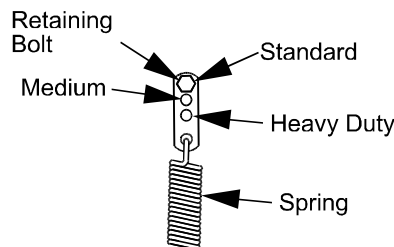

FIGURE 12
- b) For a heavier drive setting, relocate the spring anchor link to either the “medium” or “heavy duty” positions as shown in Figure 12. The spring anchor links are attached to the upper rear corner of the hydro drive shields on the left and right hand sides of the machine.